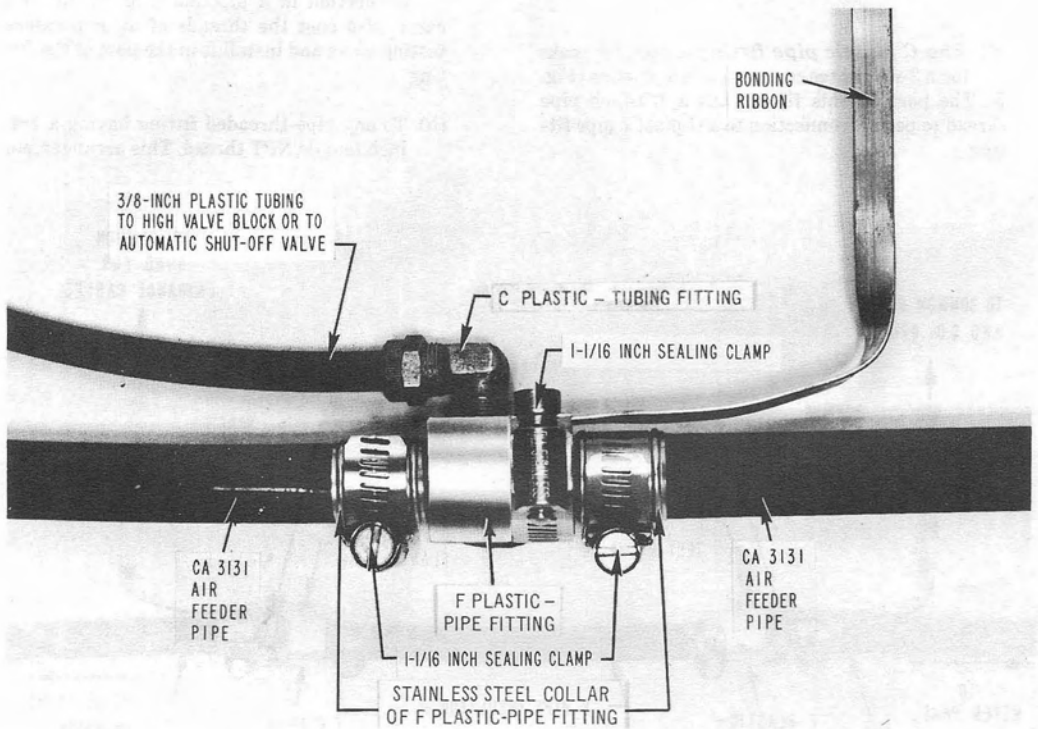
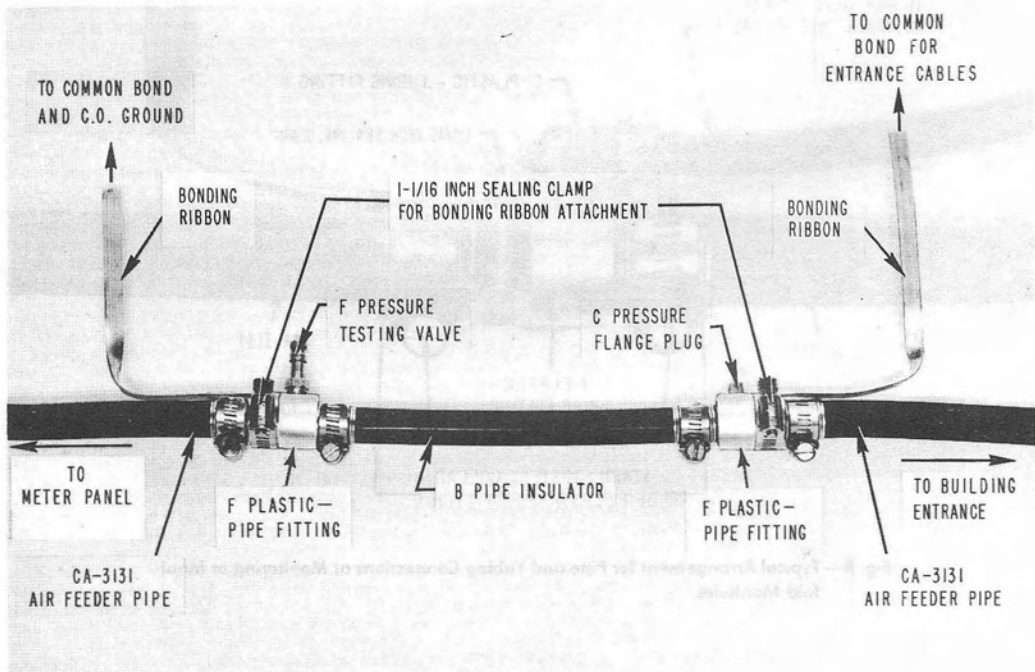
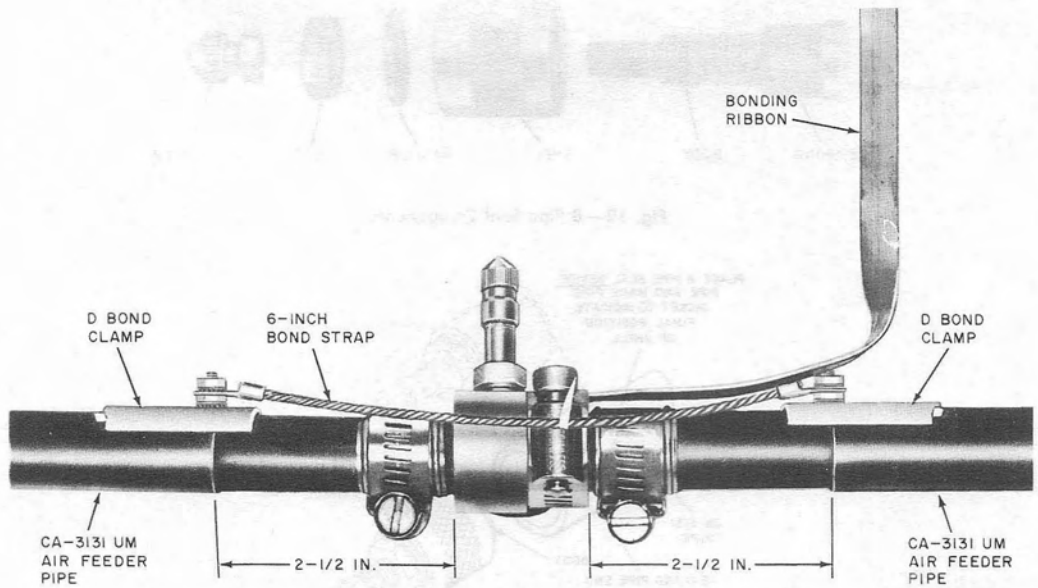

Fig. 5—Typical Arrangement for Pipe and Tubing Connections at Monitoring or Manifold Manholes
Fig. 6—Pipe Arrangement Where Insulating Joint Is Required
Fig. 10—Maintaining Continuity When Connecting Two Sections of CA-3131 UM Air Feeder Pipe
- (b) At high-valve and manifold manholes where plastic tubing connections to the pipe will be required (Fig. 5), coat the threads of a C plastic tubing fitting with TEFLON pipe sealing tape and install it in the port of the fitting.
Secure the bonding ribbon to the fitting with a sealing clamp (Fig. 5).
(d) With the B pipe insulator for making an insulated joint in CA-3131 air feeder pipe at CO vaults where insulating joints are required in the entering cables (Fig. 6).
5.05 ♦ At underground locations where rodents are a problem, or for direct burial, CA-3131 UM air feeder pipe which has mechanical protection should be used.♦ The connection of the innersheath of CA-3131 UM is identical to CA-3131, as outlined in paragraph 5.03. Maintaining continuity of outer sheath requires the removal of 2-1/2 inches of UM protection from each section of pipe and D bond clamps and bond strap installation as shown in Fig. 10.
7.01 When a conduit section is blocked or it is desired to feed from a pole-mounted air dryer to a manifold in a manhole, it may be necessary to place CA-3131 or CA-3131 UM air feeder pipe along the pole line. In such cases, the pipe can be placed in one continuous length and lashed to an existing strand and cable. The pipe shall be bonded to existing cable at the first, last, and every fifth section as is required for polyethylene sheath cables. The bonding arrangement on the pipe is as shown in Fig. 5. Where an insulating joint is required, it also shall be placed in the pipe, as shown in Fig. 6. Where CA-3131 UM is used, continuity should be maintained as shown in Fig. 10 and bonded to existing cable at the same locations specified for CA-3131.